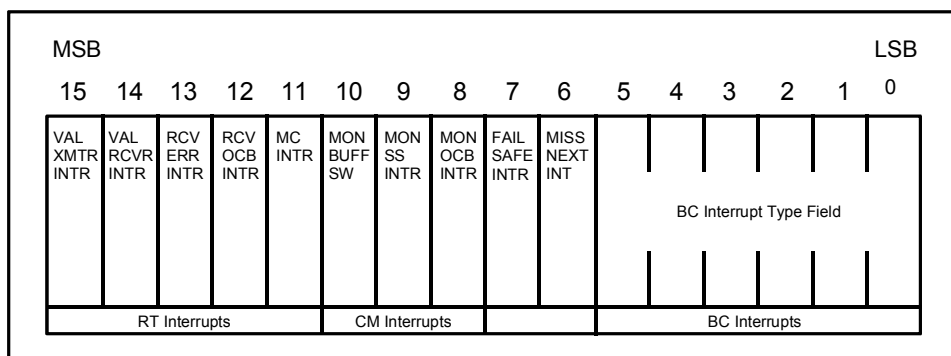

Figure B-1 Trailer Word
- As the last word in an interrupt packet (Figure B-1), the Trailer Word defines valid interrupt types and sources for the corresponding 1553 message.